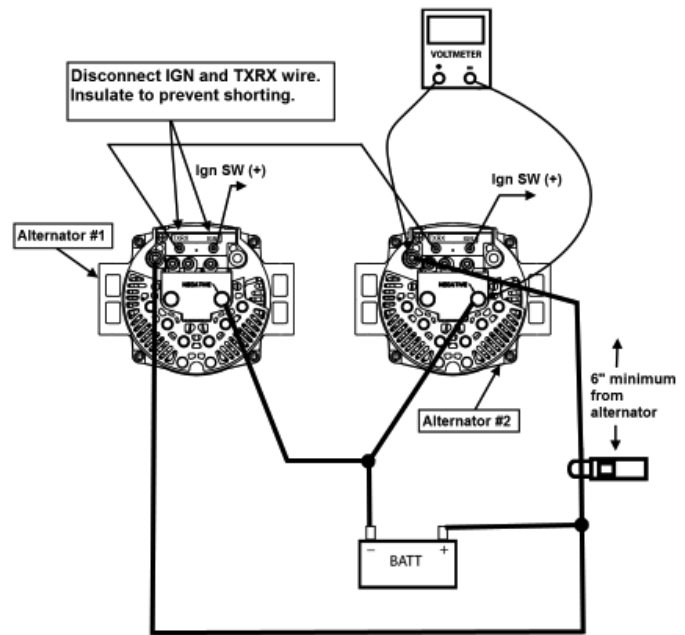

Fig 7
2) Connect voltmeter to Alternator #2 output terminals and ammeter to Alternator #2 positive output cable. Disconnect Alternator #1 ignition and TXRX wire and insulate to prevent shorting. See Fig 7 for proper connection of voltmeter and ammeter.